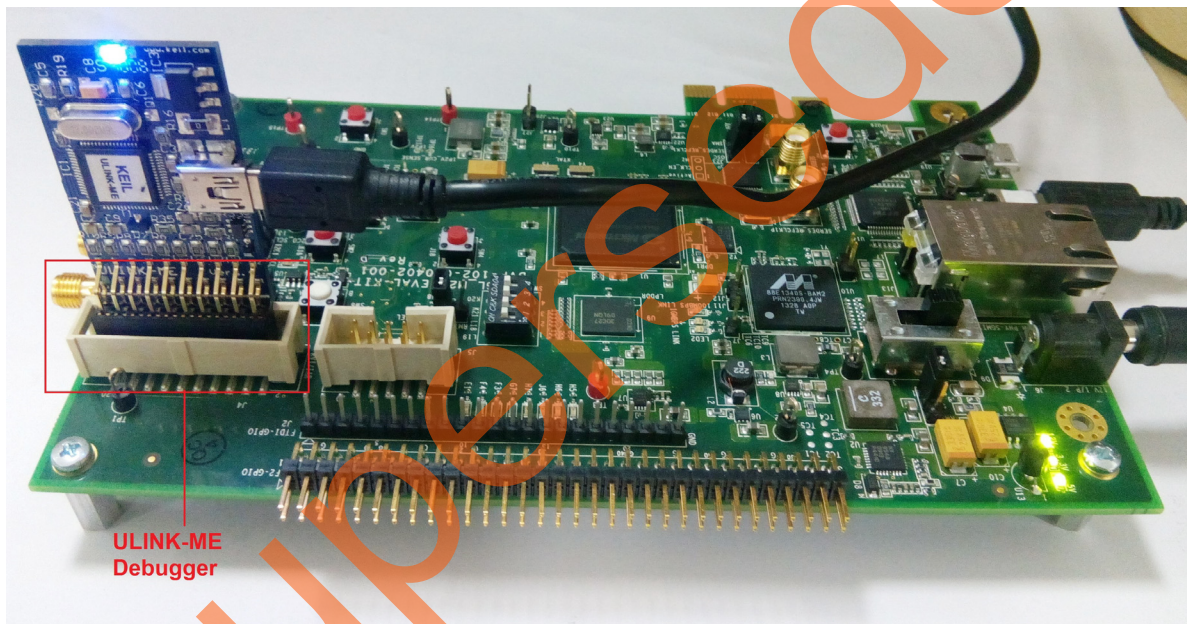

Figure 34 • ULINK-ME Connections
3. Verify that the ULINK-ME debugger is connected to the SmartFusion2 Security Evaluation Kit board RVI Header as shown in Figure 34 and also to the host PC through a USB A-Mini B cable. The ULINK-ME adapter has one LED that indicates connection status in the following ways: